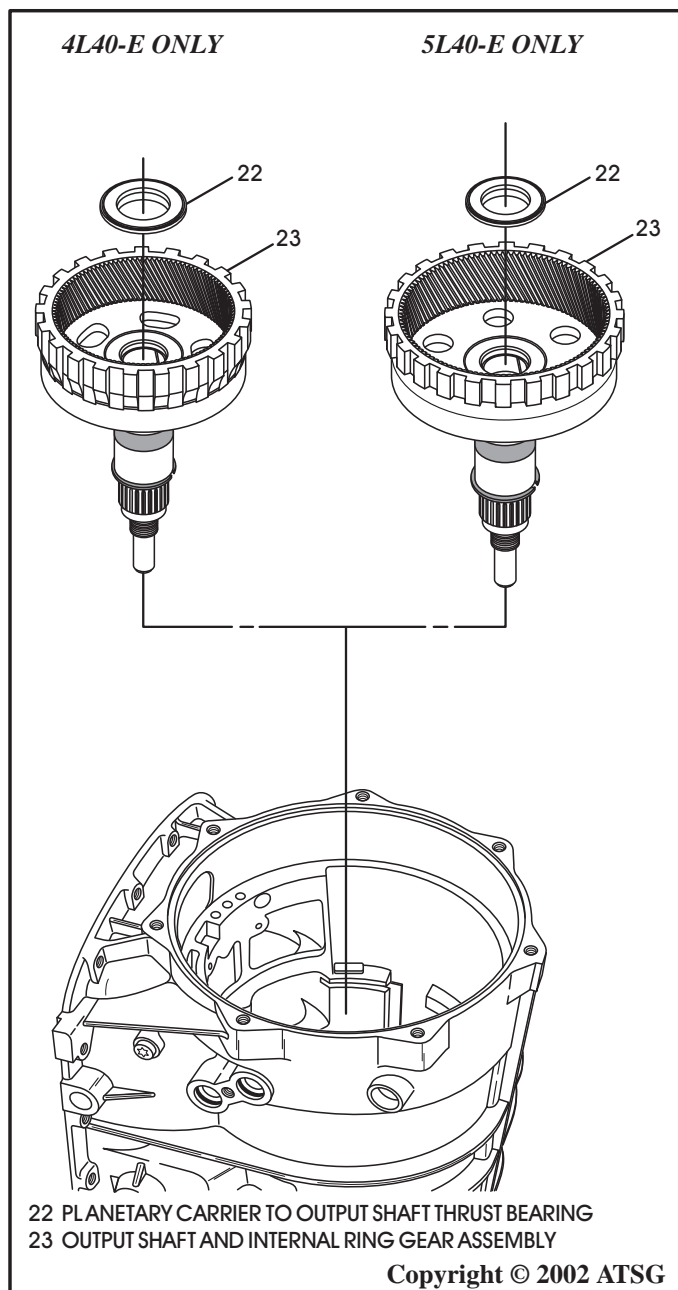

Figure 54
47. Remove the planetary internal ring gear and output shaft along with the thrust bearing, as shown in Figure 54. We have illustrated both the 4L40-E and the 5L40-E in Figure 54.